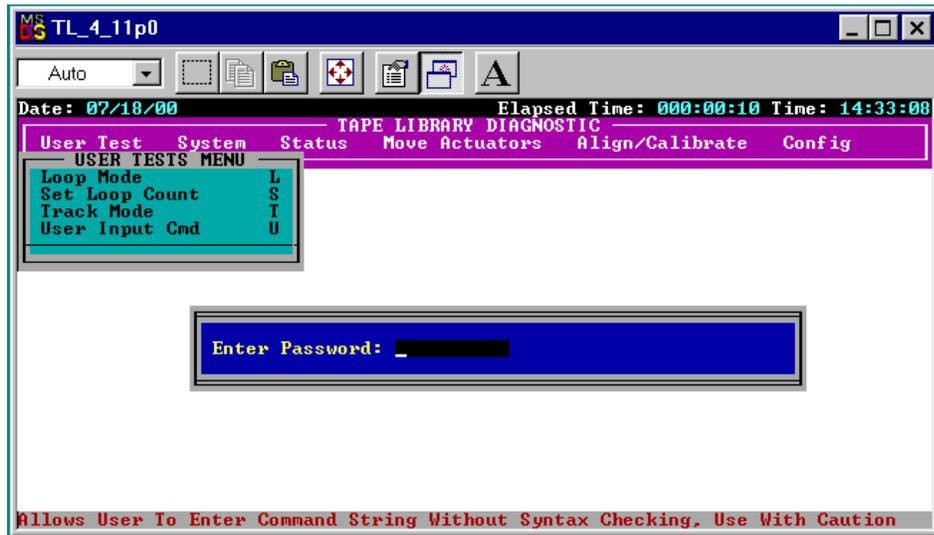

Figure 3-10. Password dialog box
4. Enter your password. The case-sensitive default is kvision (see Figure 3-10).